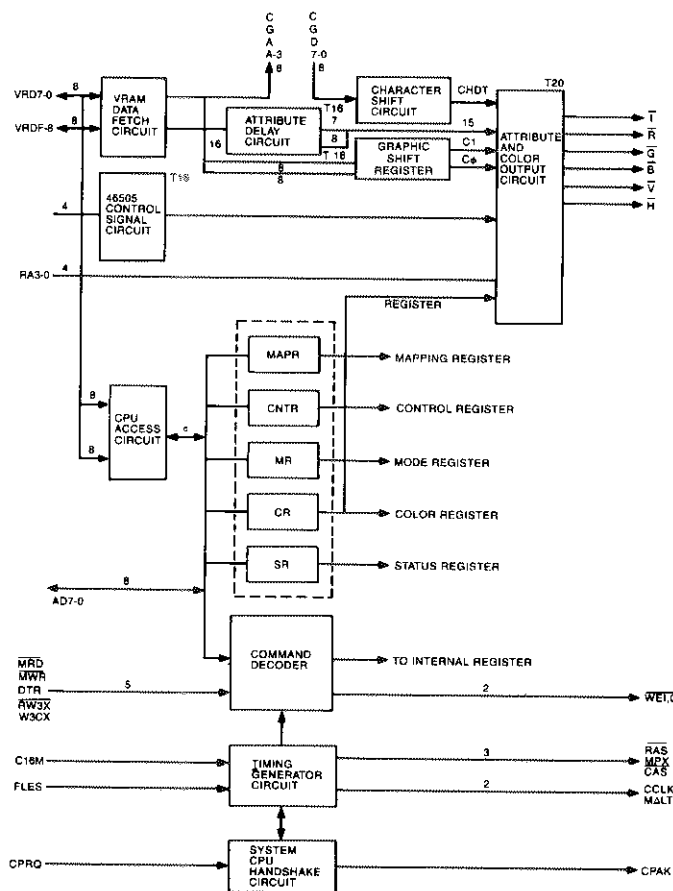

FIGURE 2-85. GAIBVD LSI BLOCK DIAGRAM
2.5.5 GAIBVD LSI Gate Array (Figure 2-85)